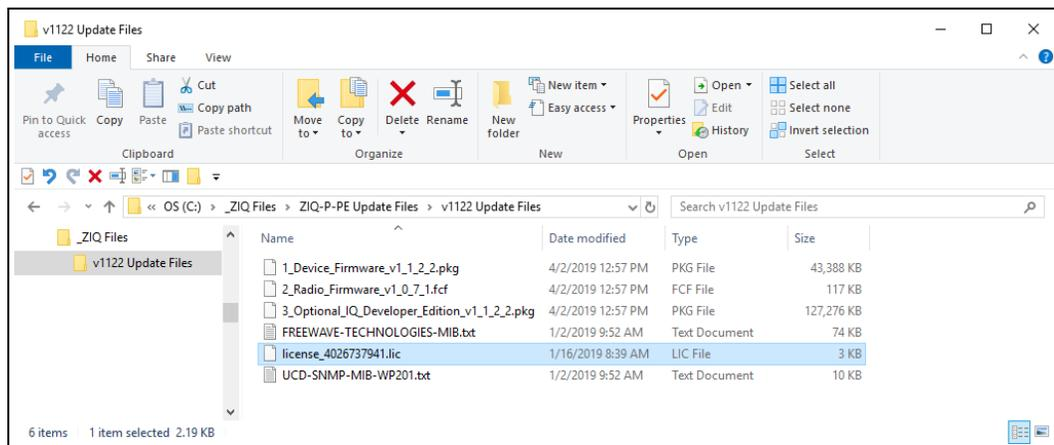

Figure 92: Selected **License_nnnnnnnnnn.LIC** File
3. Locate and select the saved **License_nnnnnnnnnn.LIC** file. Figure 92